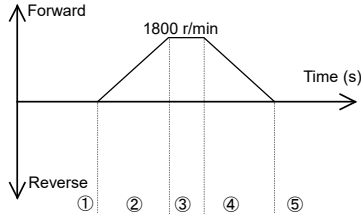

Figure 7.1 Operation Pattern
(1) Example of operation pattern
Figure 7.1 shows an example of an inverter's operation pattern. To drive the inverter according to this operation pattern, the communication data should be as shown in item (2) below.